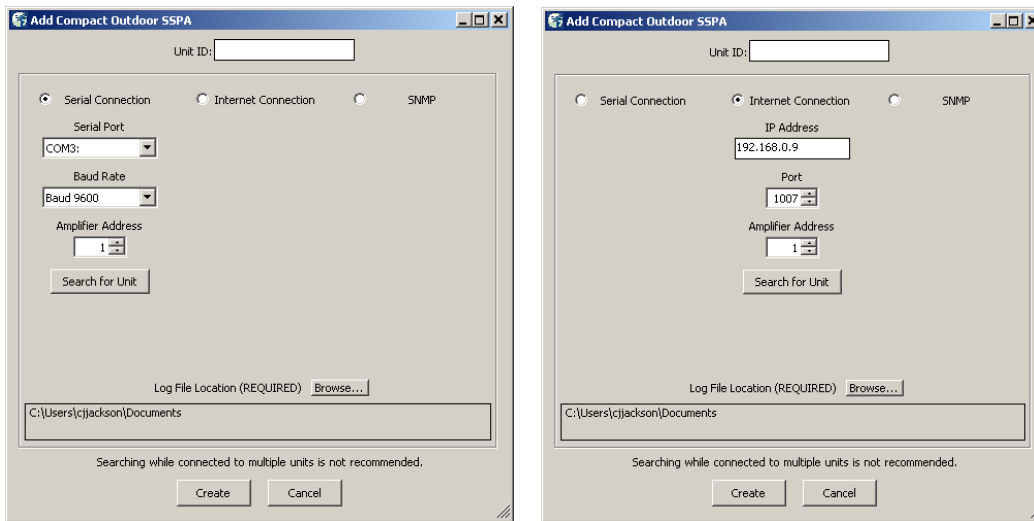

Figure 3-10: Add Compact Outdoor SSPA window, via Serial (left) or Internet (right)
3. A new dialog window will open (see **Figure 3-10**). Enter the following information where applicable: Unit ID; if using a RS-232 Connection, the Serial Port and Baud Rate; or if using an Ethernet Connection, the unit's IP Address.